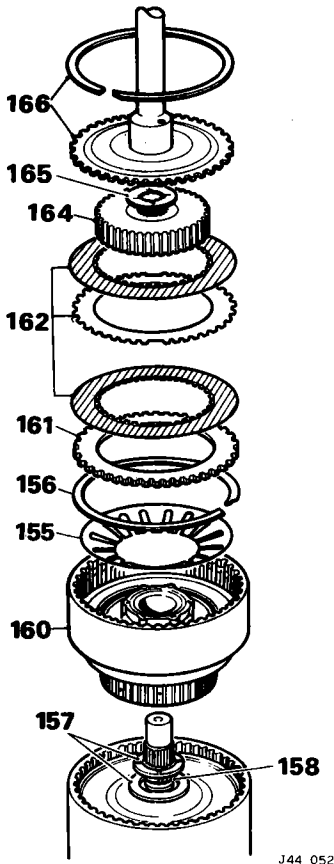

Fig. 51
- 155. Fit the release diaphragm (Fig. 51).
- 156. Fit the snap-ring (Fig. 51); ensure that the ring is correctly seated in the groove.
- 157. Fit the steel backing washer and new bronze thrust washer on the forward sun gear shaft (Fig. 51); ensure that the backing washer is seated correctly.
- 158. Ensure that the gaps in the sealing rings on the input end of the forward sun gear shaft are staggered (Fig. 51).
- 160. Carefully lower the front clutch hub and piston assembly over the shaft and into rear clutch (Fig. 51).
- 161. Fit the ring gear (Fig. 51).
- 162. Position the inner and outer clutch plates in the clutch drum (Fig. 51).
- 164. Fit the clutch hub; ensure that the hub fully engages all clutch plates (Fig. 51).
- 165. Position the new bronze thrust washer in the recess in the clutch hub (Fig. 51).
- 166. Fit the turbine shaft and the snap-ring; ensure that the snap-ring is correctly seated in groove (Fig. 51).